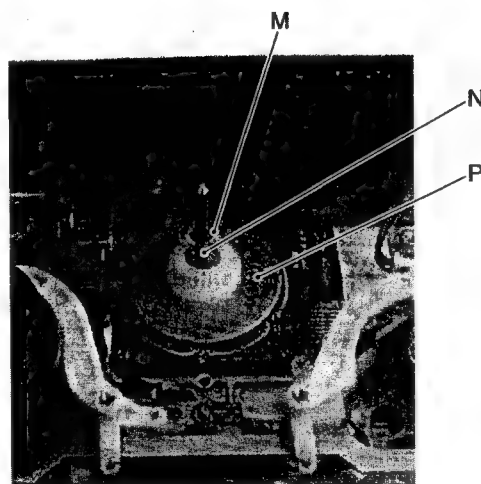

Fig. 2-7-53
4. Remove washer M and spring N, then remove rotor P (see Fig. 2-7-53).